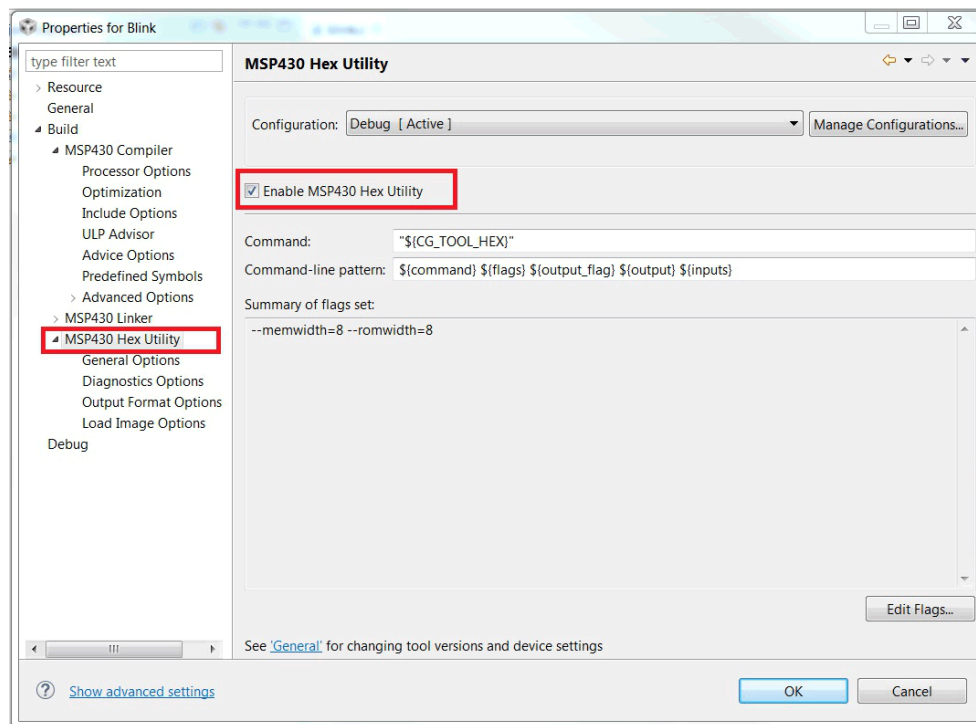

Figure 3. CCS – Enable MSP430 Hex Utility
2. Click **Build** → **MSP430 Hex Utility**, and then select **Enable MSP430 Hex Utility** (see Figure 3).